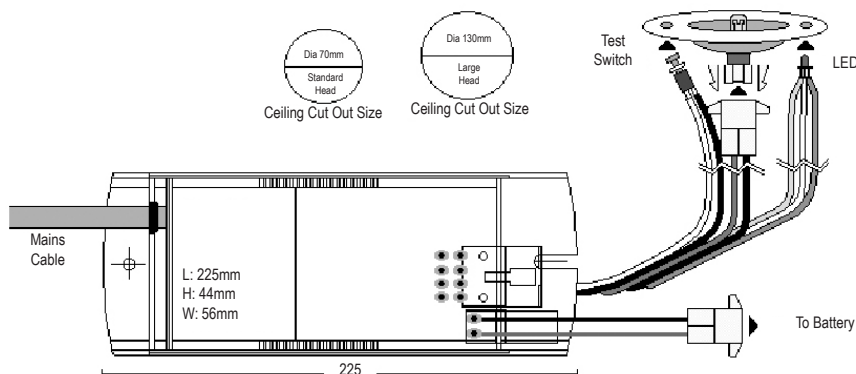

Figure 1: Spitfire/Whitefire Control Pack and Lamp Head Connection Diagram
3. After mounting control and battery pack to their position, connect the lamp head plug assembly to the control pack. Fit the LED and test switch to the lamp head as shown in Figure 1. Fit the quartz halogen QI lamp. Connect the battery plug from control pack (red & black wire) to the battery pack.